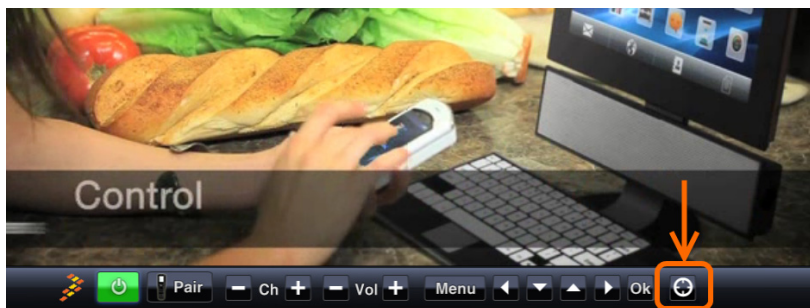

Figure 13. Exercising the “Find Remote” feature
20. In the TV GUI, press the “Find Remote” button highlighted in Figure 13. Notice how the buzzer on the 1323x-RCM makes a sound. This helps simulate the scenario where a Remote Control device may be misplaced and the bidirectional RF communication is used to help users find its location more quickly.